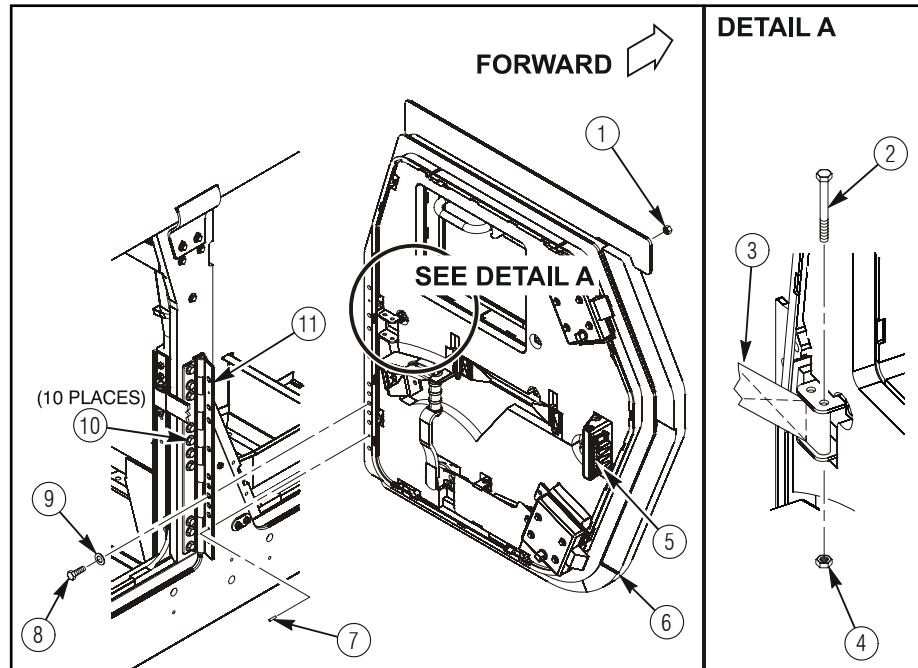

Figure 39a
1. Lift 6435264-01M1 or 6435264-200M1 right rear door assembly (6) using an appropriate hoist and M00626BAS00 1 hanger bracket door fixture. Refer to figure 39a.
2. Install two 4397025-026 dowel pins (7) through installed hinge (11) as shown in figure 39a.
3. Position right rear door assembly (6) against installed hinge (11) and align to dowel pins. Install ten 4397000-060 capscrews (8), 4397005-015 washers (9), and 4397064-005 locknuts (1) as shown in figure 39a. Tighten locknuts (1) to 37 lb-ft (50.2 N·m).
6. Remove female door guide (5). Refer to figure 39a. Retain fasteners for re-installation. (See sect. KK.)
7. Close right rear door assembly (6) and from inside vehicle, check for consistent gap around door. Refer to figure 39a. If gap is not consistent, support door assembly (6), loosen capscrews (10) and adjust hinge (11) mounting position as required. Tighten capscrews (10) to 37 lb-ft (50.2 N·m).
10. Install rear door strap (3) with 4397000-044 capscrew (2) and 4397064-003 locknut (4) as shown in figure 39a. Tighten locknut (4) until three or four threads of capscrew (2) are extended through locknut (4).